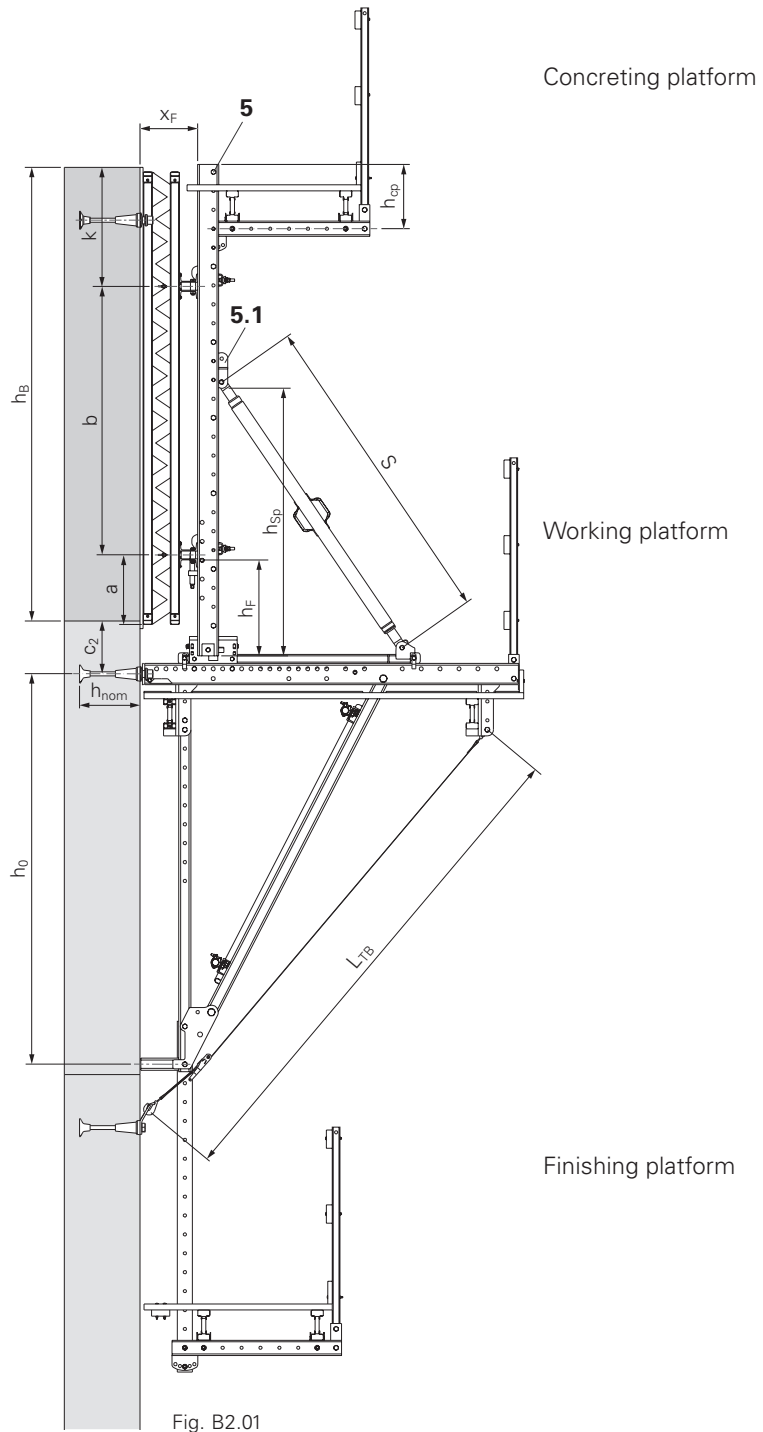

Fig. B2.01
The position of the Spindle Connector (5.1) h_{Sp} and the position of the steel waler of the formwork must be included in the static calculations. These dimensions are decisive for the bending load of the Strongback (5). (Fig. B2.01)